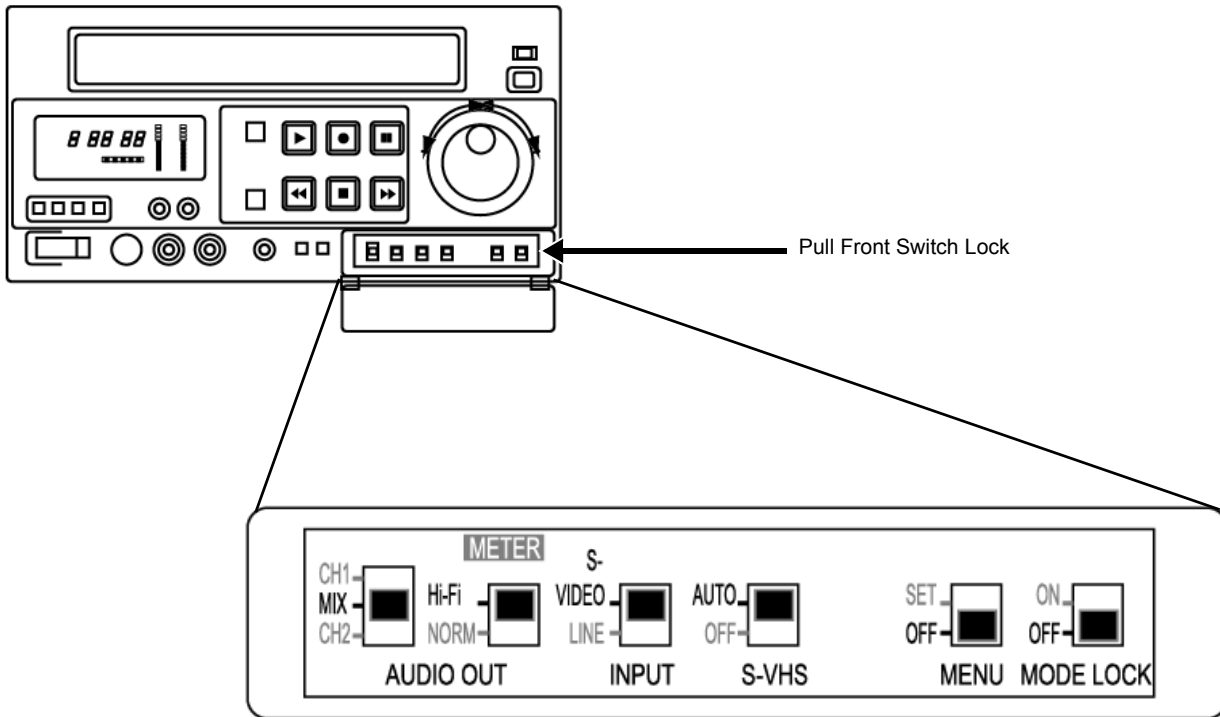

Figure 8-148 Panasonic VCR Switches Setting
- 5.) Verify that the switches on the VCR front switch panel are as shown in Figure 8-148 on page 8-152. If necessary, adjust accordingly.